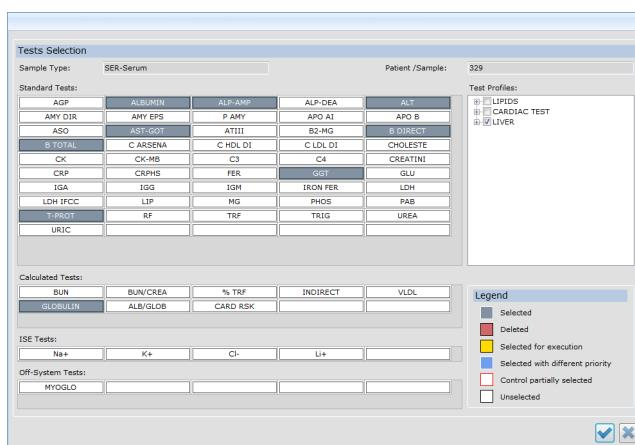

Figure 62 Test selection screen
- Tests* Button for accessing the list of tests and assigning them to the patient. See Figure 62.
New tests can be added to a work session that has samples and reagents in position. To do this select the patient for which the tests are to be added and press the *tests* button. The program will ask the user about whether new tests are to be added, and if the answer is yes, the screen in Figure 62 appears. Samples or tests can also be added to work sessions that are already initiated.